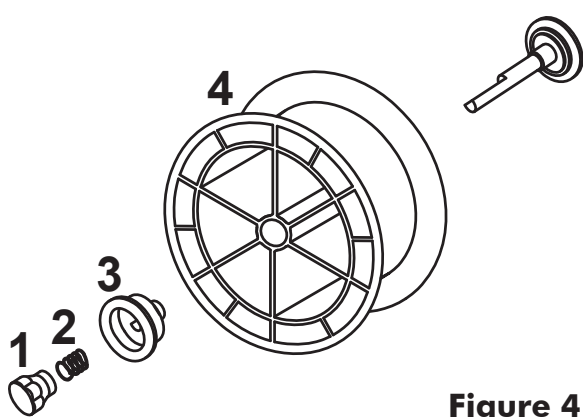
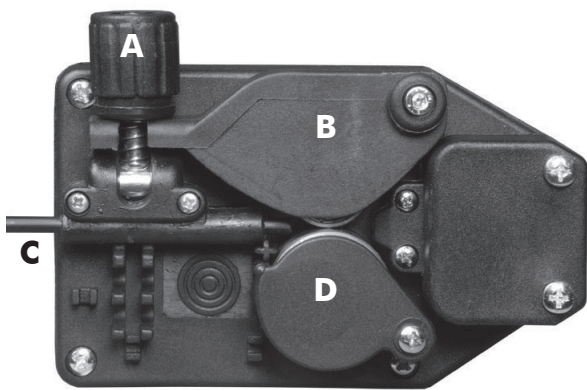

Figure 4
Figure 5
- Loosen the nut (1) of the spool holder (brakedrum) and remove the spring (2) and the external ring (3). (Fig.4)
- Remove the plastic protection from the spool (4) and place it on the spool holder.
- Mount the external ring (3), the spring (2) and the plastic lock nut (1) again. These parts form the braking system of the wire spool speed. NOTE: Do not tighten the nut too much, excessive pressure strains the wire feeding motor, while too little pressure does not allow the immediate stop of the wire spool at the end of the welding.
- Loosen and lower the plastic knob (A) (Fig.5). Open the pressure arm (B) of the feeder. Extract the wire from the torch liner.
- When the wire is disconnected, grasp it with pliers so that it cannot exit from the spool. If necessary, straighten it before inserting it in the wire input guide (C). Insert the wire on the lower roll (D) and in the torch liner.